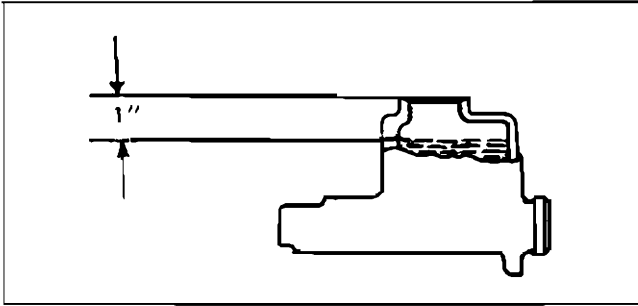

Fig. 5-12 Correct Fluid Level in Master Cylinder
4. When bleeding operation is completed, refill reservoir to within 1" of top of master cylinder filler neck gasket surface (Fig. 5-12) then replace filler cap.